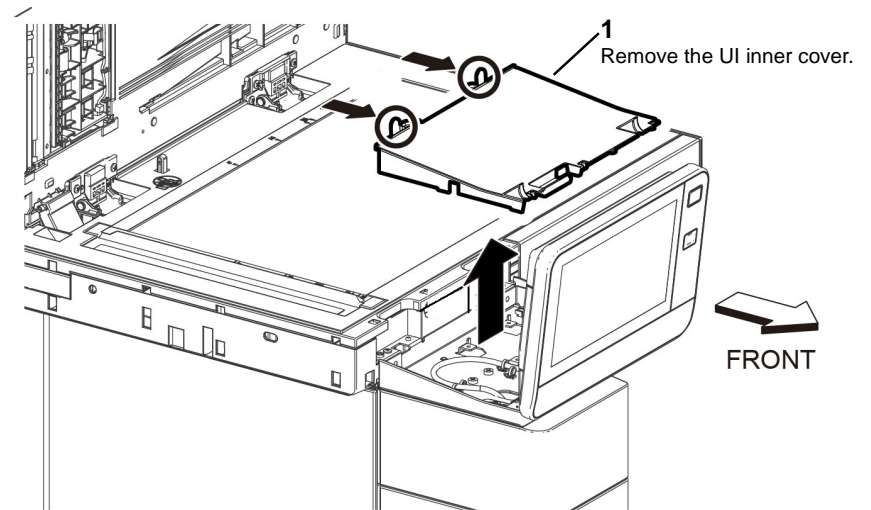

Figure 1 Remove the UI Inner Cover
2. Remove the UI inner cover, Figure 1.